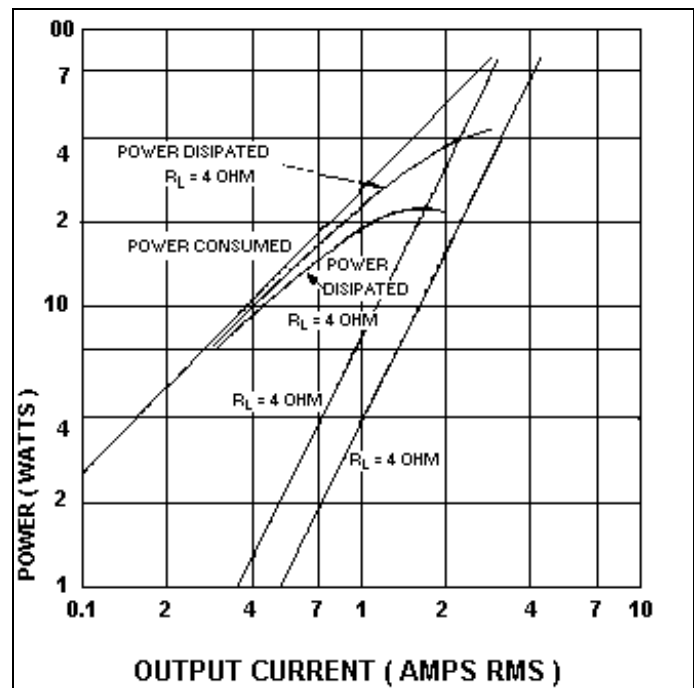

Figure 3. Power Curves for the Amplifier with 4 and 8 Ohm Loads and $\pm 30\text{V}$ Power Supplies
Consequently, a $\pm 30\text{V}$ supply will be adequate for a 60W output, provided that the supply voltage does not fall below $\pm 28\text{V}$ when loaded, i.e., the power supply impedance should be better than 1 ohm. The relationship between the power delivered to the load and the power absorbed from the supply is shown in Figure 3, assuming a sinusoidal waveform and a $\pm 30\text{V}$ supply. The curve representing the power delivered to the load can be easily plotted with the help of equation (1) for different values of load current.
The difference between the two is the power dissipated in the HEXFET Power MOSFETs and as it can be seen from Figure 3, it has a peak of approximately 46W. Assuming a maximum ambient temperature of 55°C, the total thermal resistance between the junction of the two HEXFET Power MOSFETs and the ambient will have to be less than 2°C/W. Considering that the IRF530 and IRF9530 have a thermal resistance between junction and case of 1.7°C/W each, the maximum case temperature will have to be less than 110°C and the thermal resistance of the heatsink will have to be less than 1.15°C/W to ambient.